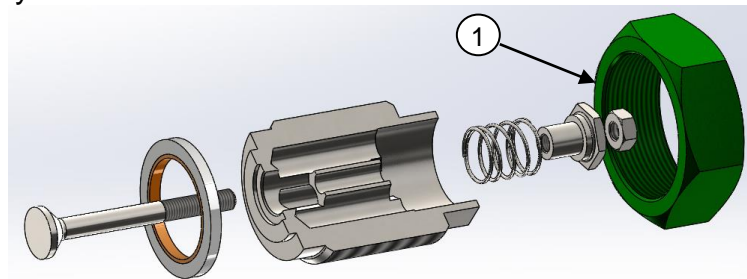

Figure 6 – Suction Valve Assemblies
6. Assemble suction valve sub-assemblies as per figure 6; the M4 nut should be flush with the end of the valve stem. Torque nut to 2-3Nm, apply loctite 225, 1-2 drops. Screw into cylinder block, apply a small amount of Loctite 225 to the last few threads and tighten to 60-65Nm. Fit lock nuts (green – figure 6.1) and torque to 30-35Nm, note lock nuts are not fitted to 6 piston XW pump variants.